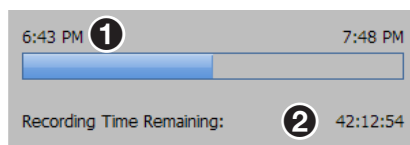

Figure 29. Progress Bar and Record Time Available
A progress bar (see figure 29, ①) below the recording control buttons is a horizontal bar graph that shows how much recording time has elapsed and, if it is a scheduled session rather than an ad hoc recording, how long the presentation is expected to last. For an ad hoc recording, initially the progress bar shows a five minute duration. The displayed duration increases in five-minute increments as the ad hoc recording progresses.